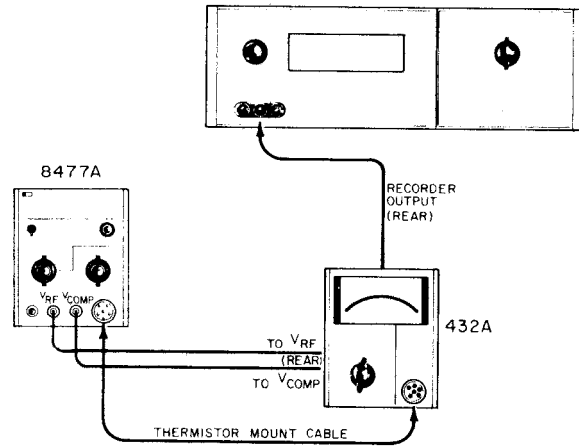

Figure 5-1. Check and Adjustment Test Set-up
a. Connect the 8477A outputs to the 432A inputs as shown in Figure 5-1. Use appropriate test equipment as listed in Table 5-1.
- (1) With instrument turned off, rotate meter adjustment screw clockwise until pointer approaches zero mark from the left.
- (2) Continue rotating clockwise until pointer coincides with zero mark. If pointer overshoots, continue rotating adjustment screw clockwise until pointer once again approaches zero mark from the left.
- (3) Rotate adjustment screw about three degrees counterclockwise to disengage screw adjustment from meter suspension.